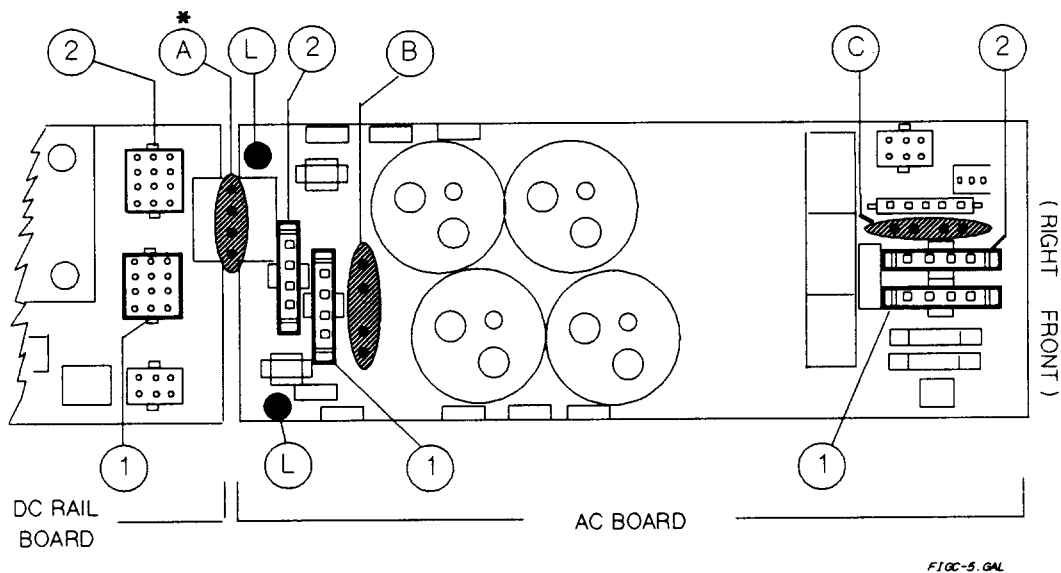

Figure C-5. Series 668xA/669xA Line Conversion Jumpers
8. Locate the three line conversion cables (A,B,C in Figure C-5). All three cables will be connected to the jacks that correspond to one of the voltage ranges (1 or 2, Figure C-5).